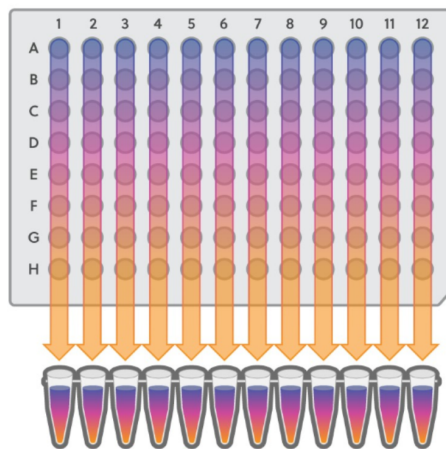

Figure 19: GeoMx Hyb Code and aspirate pooling
4. Pool the products by column into a strip tube (see Figure 19). Pool the full volume of each well (15 µL). When using the MAX/FLEX/Pro system, use NanoString-supplied strip tubes and ensure they are oriented correctly (notch after position 1 and 8).